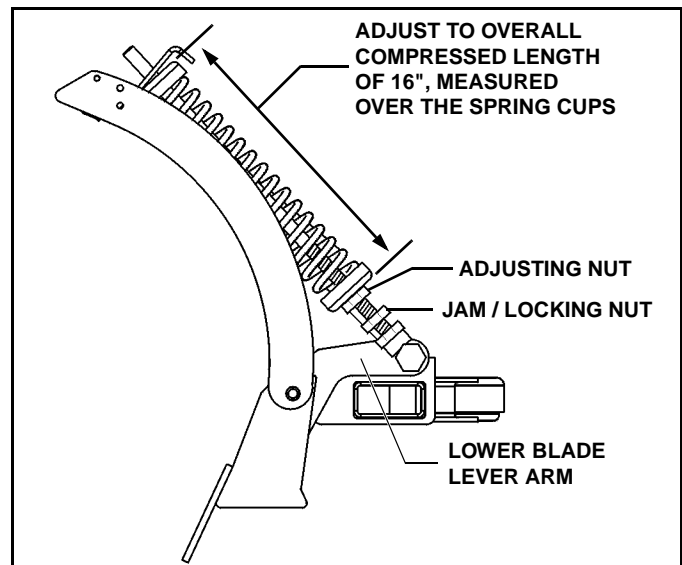

Figure 1-12
8. Adjust the trip spring loading (See Figure 1-12): Screw the 3/4" nut, adjacent to the lower spring cup, along the threaded rod so as to compress the spring to an overall compressed length of 16", measured over the spring cups. Run the remaining nut up to the underside of the adjusting nut and firmly lock them together. Repeat for all spring assemblies.